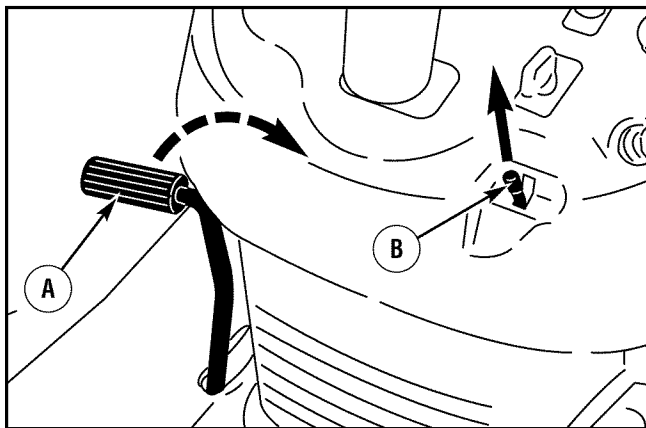

Figure 14: Parking brake
1. The **automatic drive disconnect** must be in the DRIVE position (Figure 14).
2. Lift the **parking brake lever** (Figure 14).
**WARNING:** Before you leave the operator's position, move the speed control pedal to the neutral (N) position. Set the parking brake. Move the blade rotation control to the DISENGAGE position. Stop the engine and remove the ignition key.